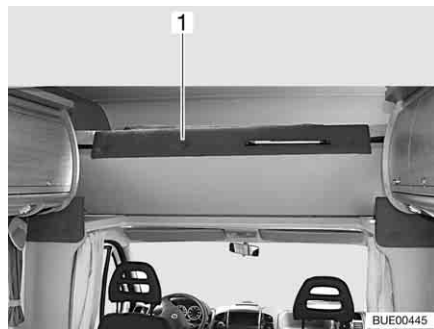

Fig. 111 Overcab bed, folded upwards
- Fold the front of the overcab bed (Fig. 111,1) upwards. The overcab bed is kept in the upper position by gas-pressure springs.